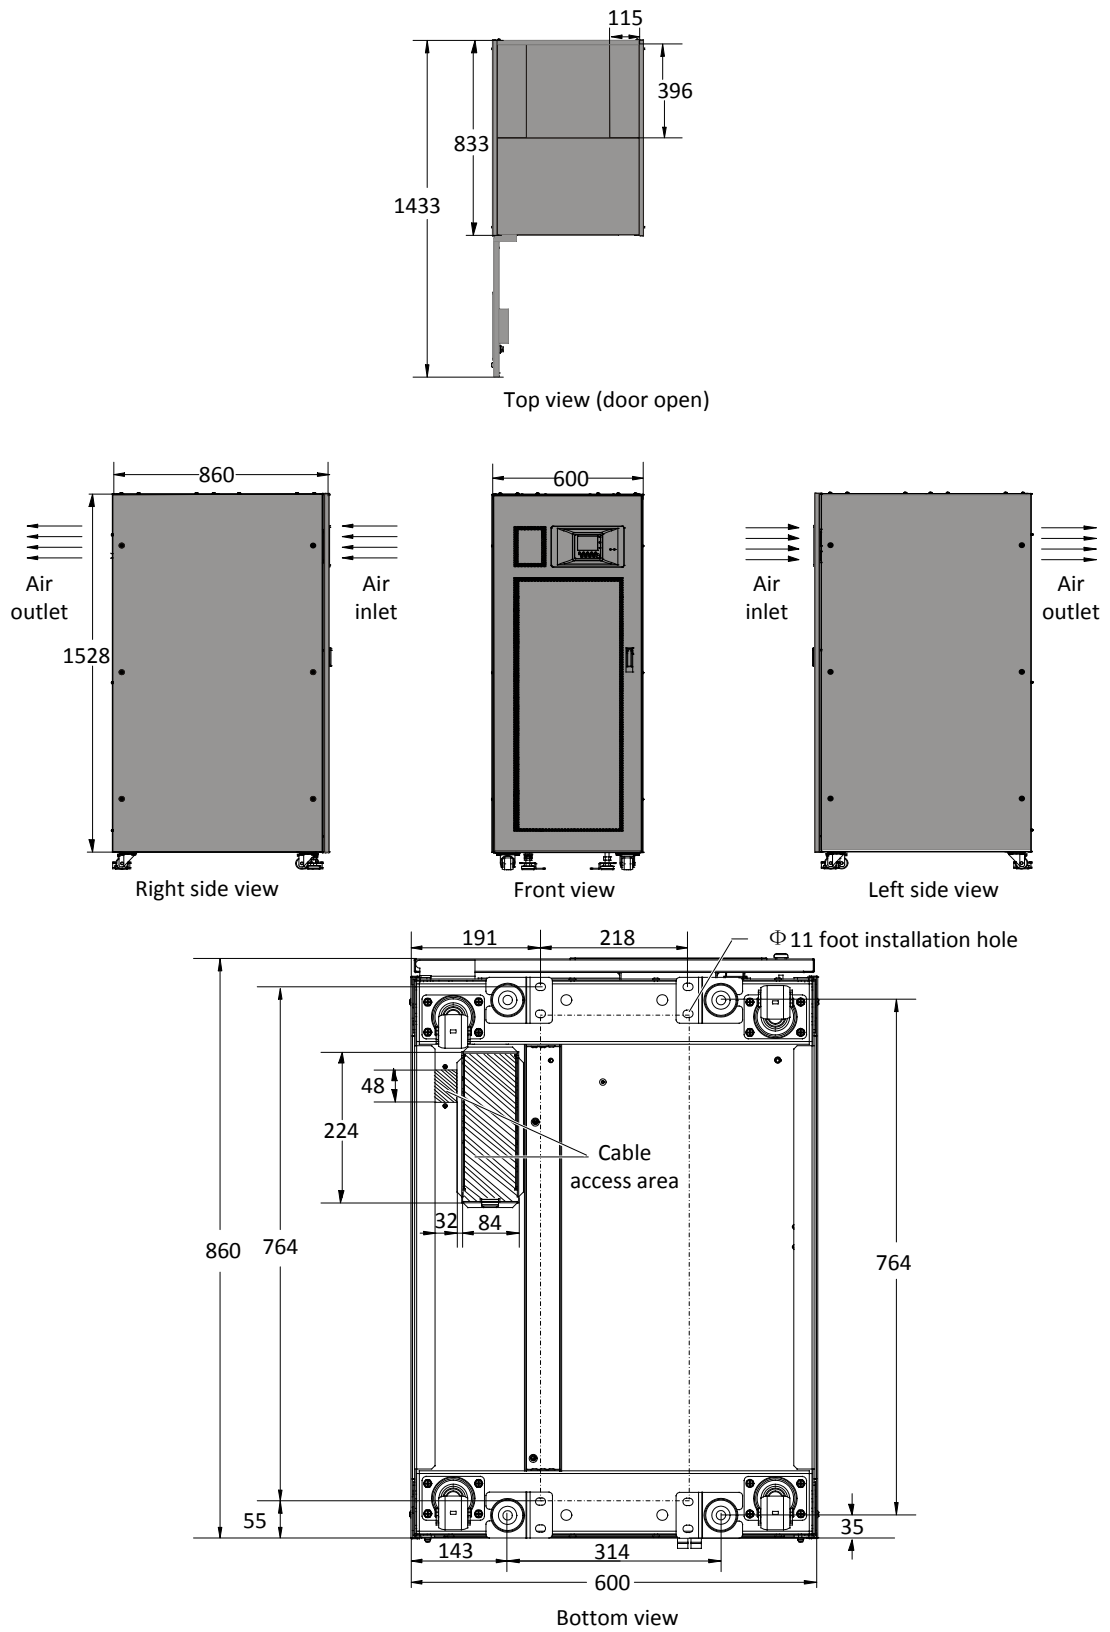

Figure 2-8 Top/front/side/bottom view of the UPS (unit: mm)
4. Align the foot fixing pieces with the installation holes dug according to dimensions shown in Figure 2-8.